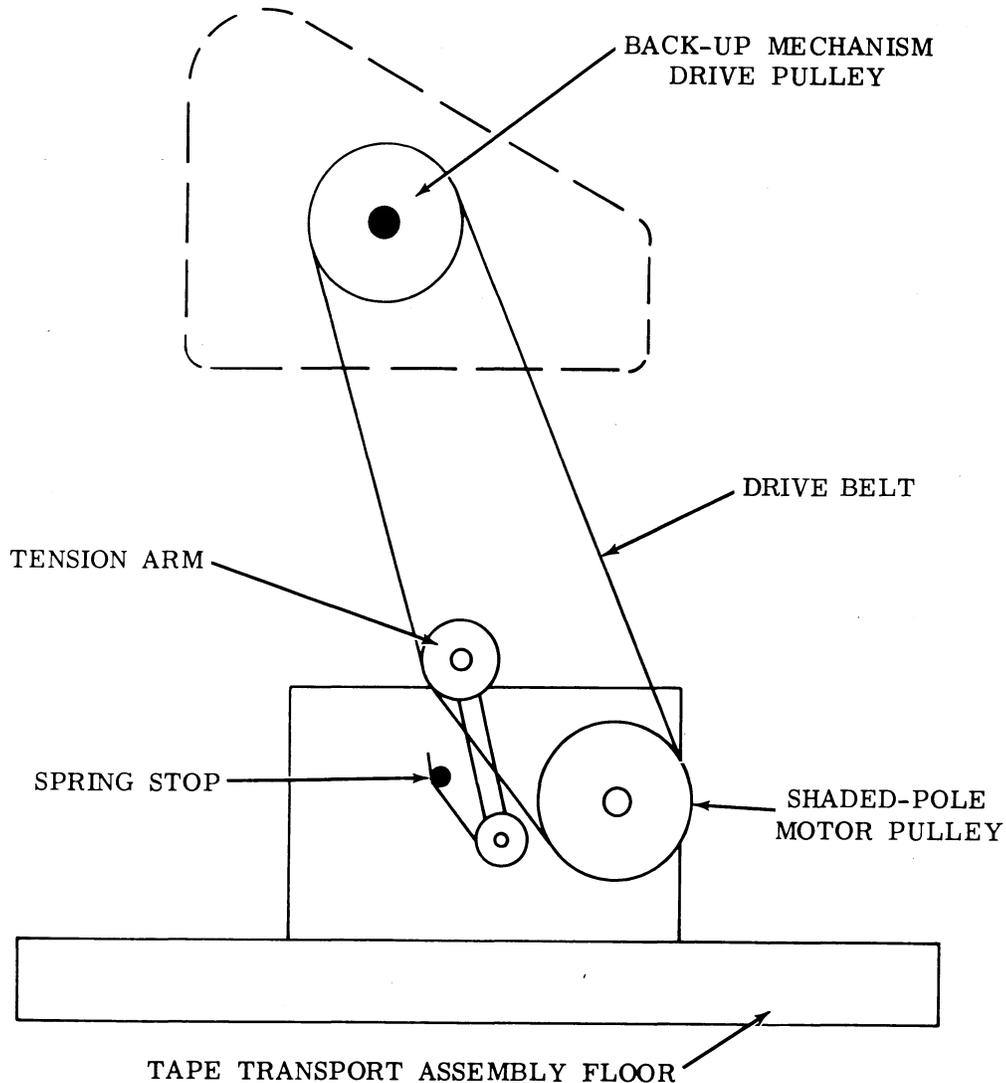

Figure 13 - Back-Up Mechanism Drive Belt Installation
2.19 Remove the drive belt from the muslin bag and install it on the rear of the back-up mechanism (Figure 13) as follows: